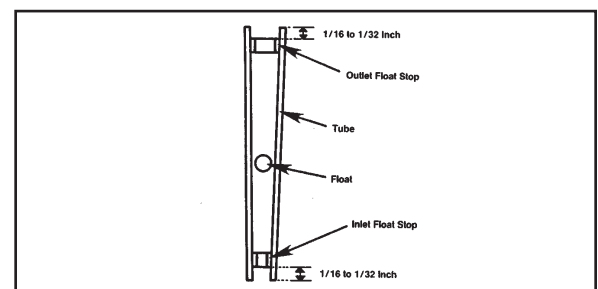

Figure 4.2 Float Stop Installation Diagram
- b. Insert check ball (6) into seal spindle (4). Check for freedom of movement.
- c. Depress seal spindle retainer tab. Insert seal spindle (4) into end fitting, and turn to the right until fully seated. Release seal spindle retainer.
- d. Insert inlet float stop (2) through outlet end of metering tube. Using a rod (wooden dowel or pipe cleaner preferred) push inlet float stop through metering tube until it is approximately  $\frac{1}{16}$  to  $\frac{1}{32}$  inch from end of metering tube. (See Figure 4.2).
- f. Insert outlet float stop (2). Push float stop into metering tube, until it is seated approximately  $\frac{1}{16}$  to  $\frac{1}{32}$  inch from end of tubes. (See Figure 4.2).